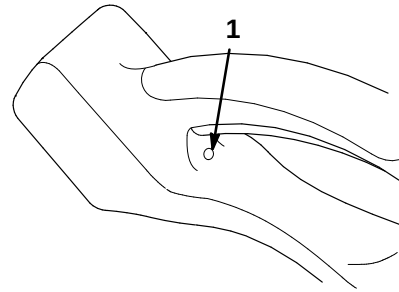

Figure 7
4. Ensure that the red charging light under the trimmer handle is on (Fig. 7).